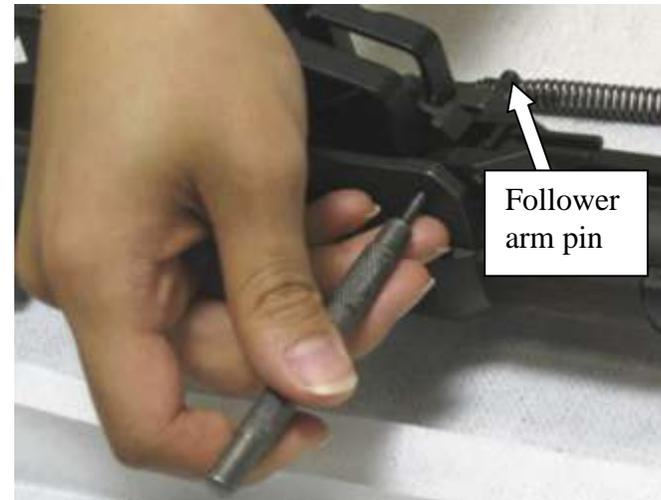

Figure 15 -Removal of follower arm pin
- 2) Using a 1/8 inch punch, remove the follower arm pin by pushing on it from the small side of the pin (the left side of the rifle when it is upright and pointed downrange). The large end of the pin can then be grasped and fully removed (fig 15).